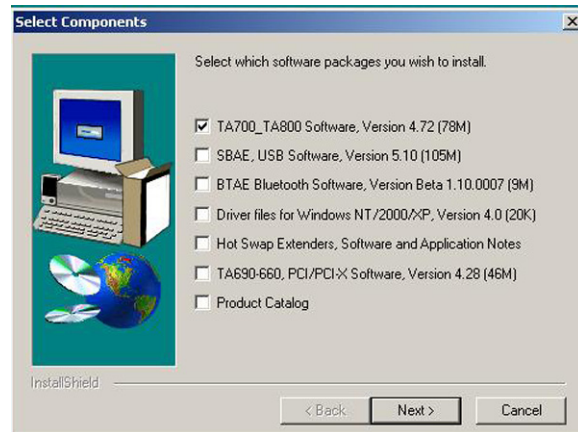

Figure 4 Install Component Selection
3. After the warning for closing all other programs and before starting the installation, the Install Component selection window will open as shown in Figure 4.